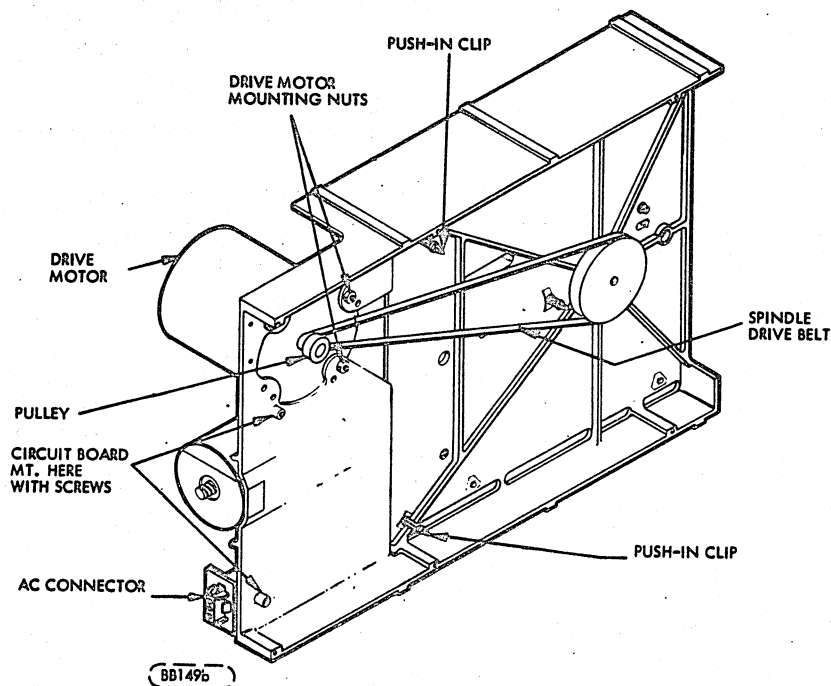

FIGURE 6-12. BASE CASTING ASSEMBLY
- c. Remove two screws from printed circuit board adjacent to connector J1 (Figure 6-12).
- d. Remove PWA by detaching it from the four push-in clips shown in Figure 6-12.
- c. Remove AC connector from bracket. (Figure 6-12).
- d. Remove spindle drive belt (Figure 6-12).
- e. Remove three (3) nuts securing drive motor (Figure 6-12).
This procedure is to be used to convert the FDD unit from 60 Hz operation to 50 Hz operation or vice versa. This is accomplished by reversing the dual diameter reversible pulley on the spindle motor shaft (Figure 6-12) using the following steps: